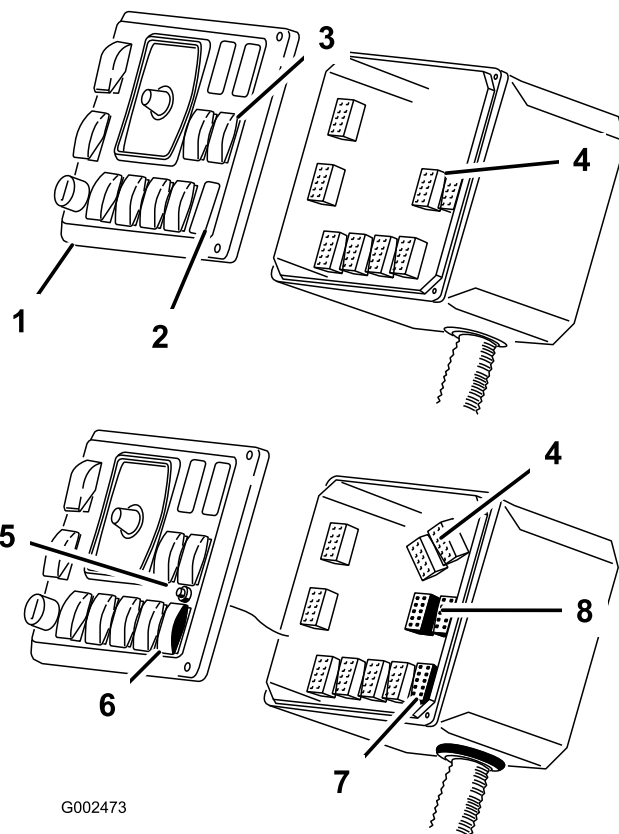

Figure 20
3. Install the indicator light through the back of the hole. Secure it to the front panel with the fasteners included (Figure 20).
4. Remove the sonic boom switch plug from the front panel and install the sonic boom rocker switch (Figure 20).
5. Locate and disconnect the plugs for the boom lift switches (Figure 20).